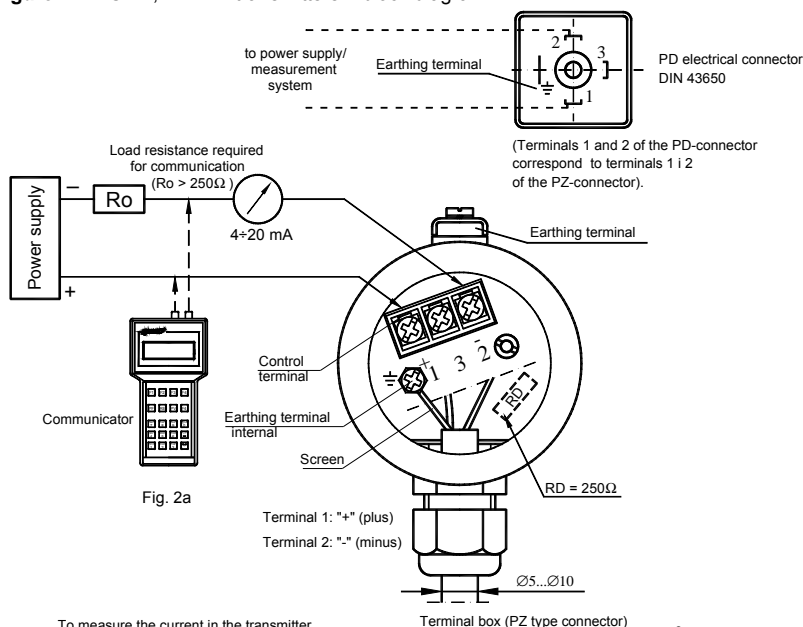

Fig. 2a
1. If the resistance seen from the transmitter in the direction of the line is $R_o > 250\Omega$, we can communicate with the transmitter via a connection to line 1 and 2, as shown on Fig 2a. (R_o = line resistance + load)
2. If $R_o < 250\Omega$, there will be no communication and R in the system should be increased to at least 250Ω , as shown on Fig. 2a.